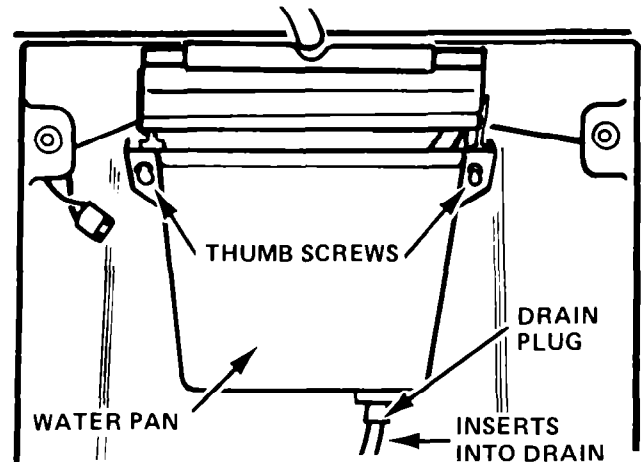

FIGURE 5
4. Drain the water pan (**Figure 5**) by removing the rubber plug. Replace the plug.
12. Remove water pan, (two thumb screws) Figure 5.